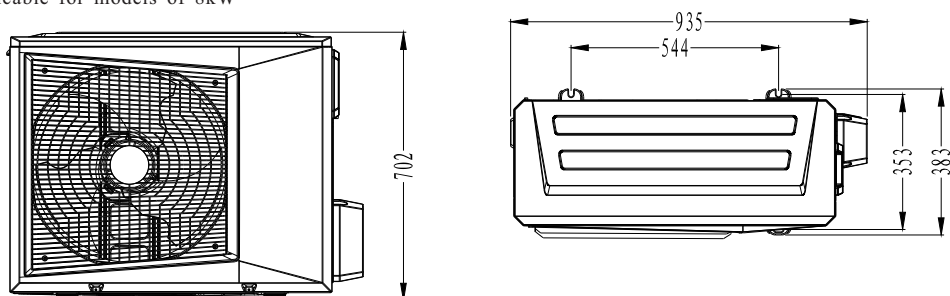

Fig. 3-3 Dimension of Outdoor Unit
3) Fig. 3-3 is applicable for models of 8kW